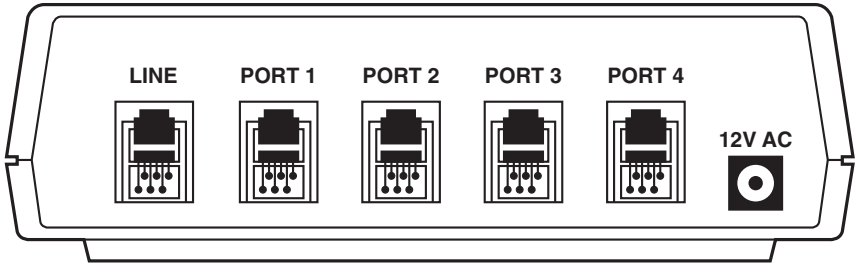

Figure 3-1. Rear Panel of the Lineshare Pro.
The rear panel of the Lineshare Pro has five (5) modular ports and a power input port, as shown in **Figure 3-1**.